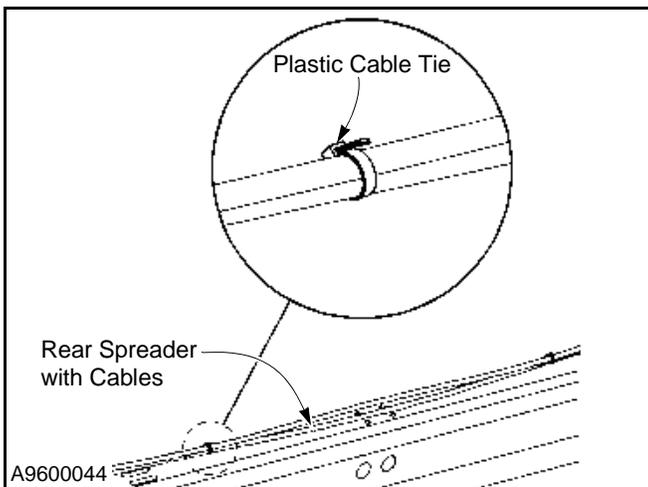

Figure 75
11. With all cables routed, secure them with plastic cable ties, as required, on the rear spreader (supplied by door owner or installer). Be sure to check that no wires or cables are pinched or interfering with any moving components of the door. (See Figure 75.)